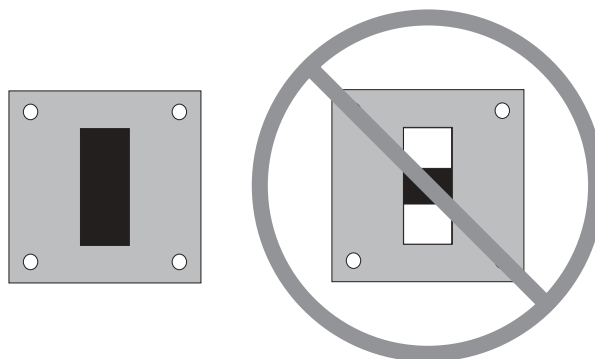

Figure 7-15 Installing the waveguide gasket properly.
19. **Reconnect the waveguide sections and tighten the stabilizers.** Do not forget to install the waveguide flange gasket between the two flanges; make sure it is oriented correctly. (See Figure 7-15.) Position the cavity in the center of the magnet air gap by moving the bridge on the table. Carefully tighten the stabilizers. Be careful not to stress the waveguide when expanding the stabilizers. Reconnect the nitrogen purge line and adjust the flow rate for a light flow.